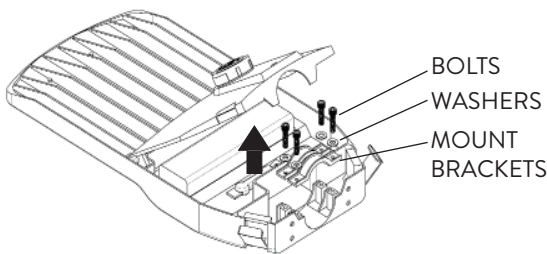

FIG. 6
- 2 The 4-Bolt Mount Brackets supplied fits 1-3/4" to 2-3/8" OD Pipe Arms. Loosen the bolts or remove if needed (Fig. 6).